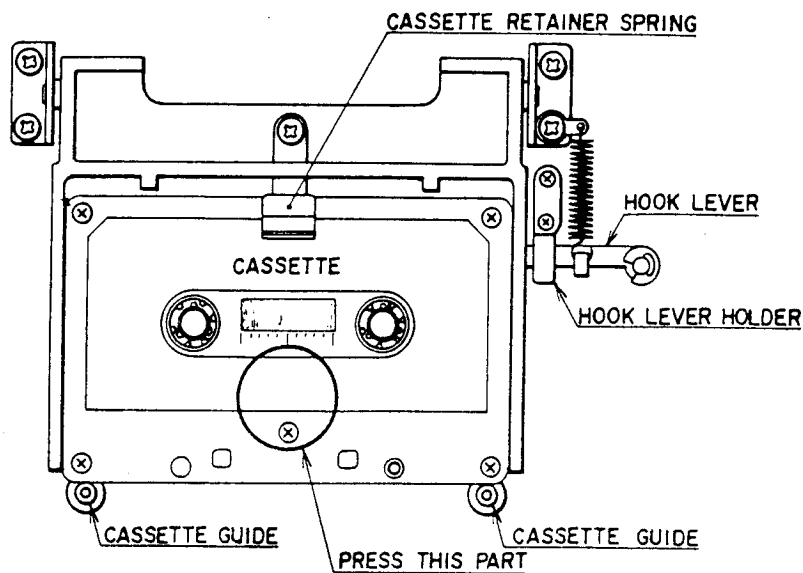

Fig. 9
4. HOOK LEVER HOLDING PLATE ADJUSTMENT (See Fig. 9)
5. CASSETTE HOLDER SPRING ADJUSTMENT (See Fig. 9)